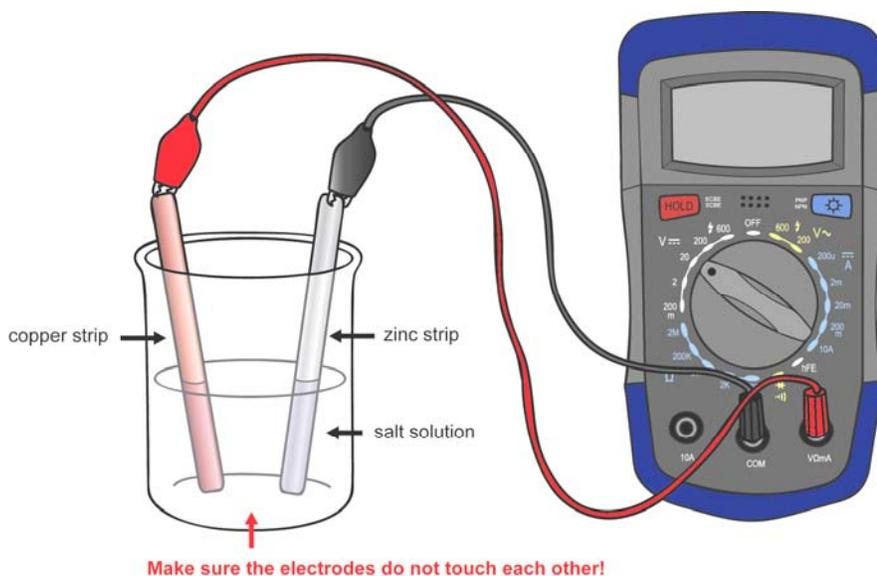

Figure 5
You will use the STELR multimeter shown in Figure 5 to measure voltage produced by this chemical cell. The cell, as you can see, consists of two different metal strips placed in a salt solution. This is like one of the earliest chemical cells ever used.
- 3 Measure out 60 mL of fresh salt solution into the measuring cylinder. Pour it into the 100 mL beaker then insert the metal strips as shown in Figure 5.